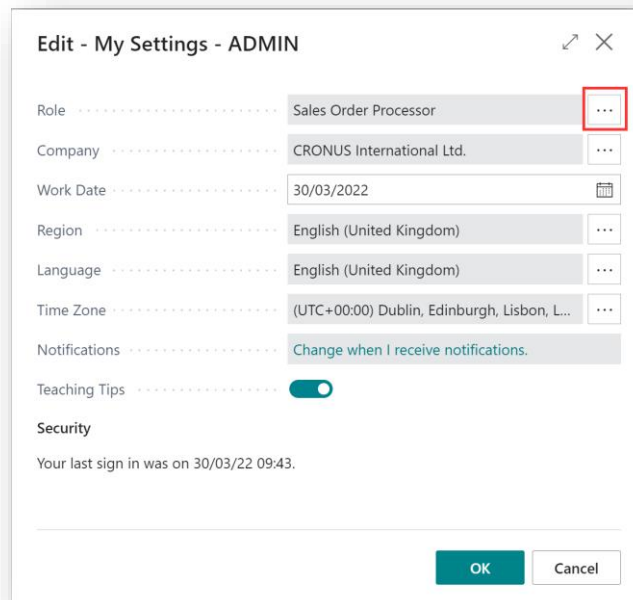

Figure 4-7
2. In the **My Settings** page, on the **Role** field, select the **AssistEdit** icon (Figure 4-7).